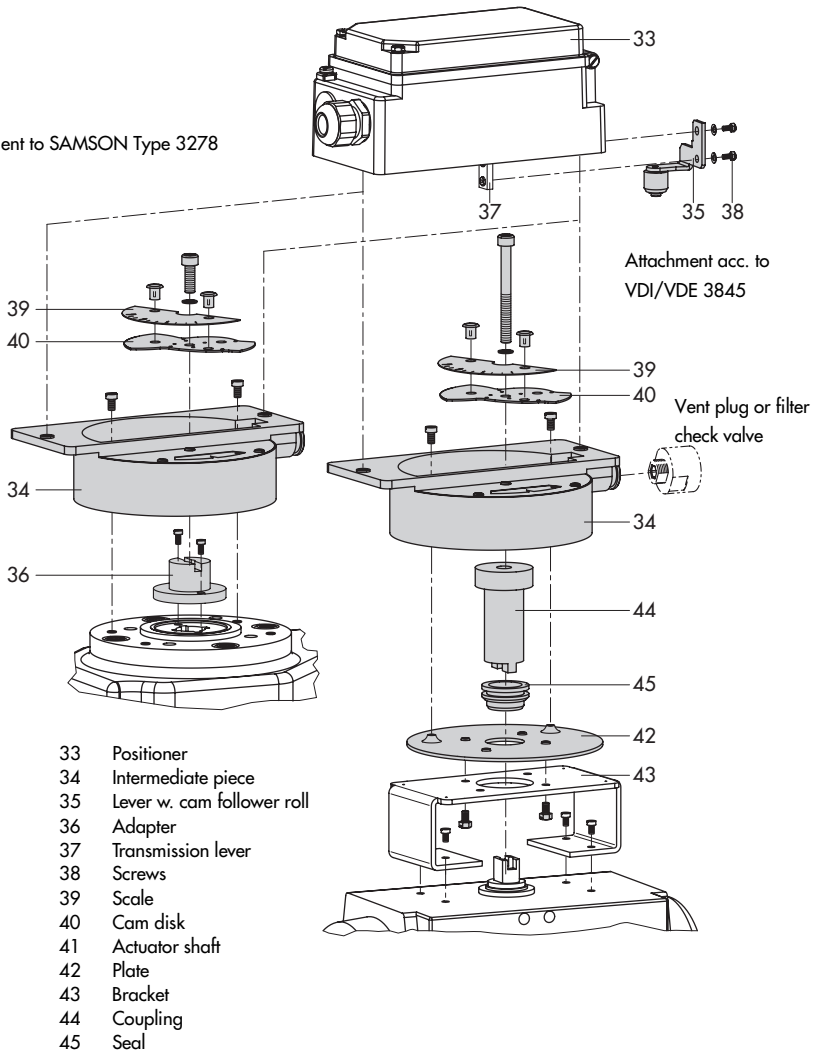

Fig. 5 · Attachment to rotary actuators
1. Adjust the shaft (25) in the adapter housing so that the black pointer (24) is aligned with the casted marking on the adapter housing.
2. Screw tight clamping plate (22) in this position, using a screw (23).
3. Screw in the pin (27) at the positioner lever (26) and secure it with a hex nut on the opposite side. Note the mounting position **A** or **B** respectively according to Table 5 and Fig. 5.
4. Put the positioner to the adapter housing such that the pin (27) will lie properly within the arms of the bracket (28).